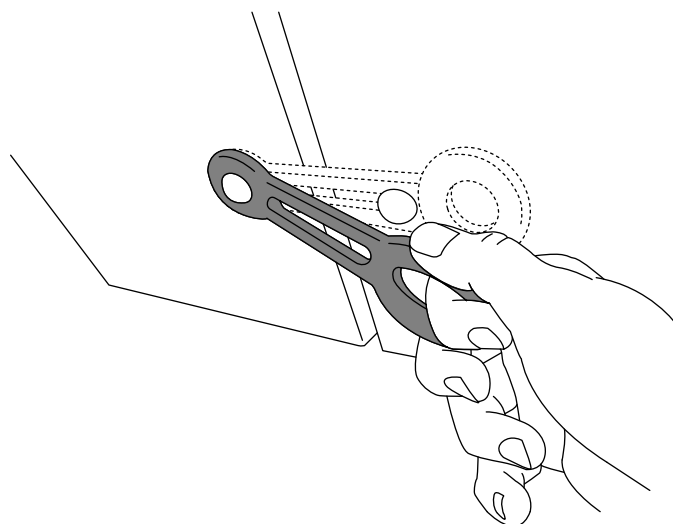

Figure 17
4. Close the engine cowl and secure the cowl latches (Figure 17).